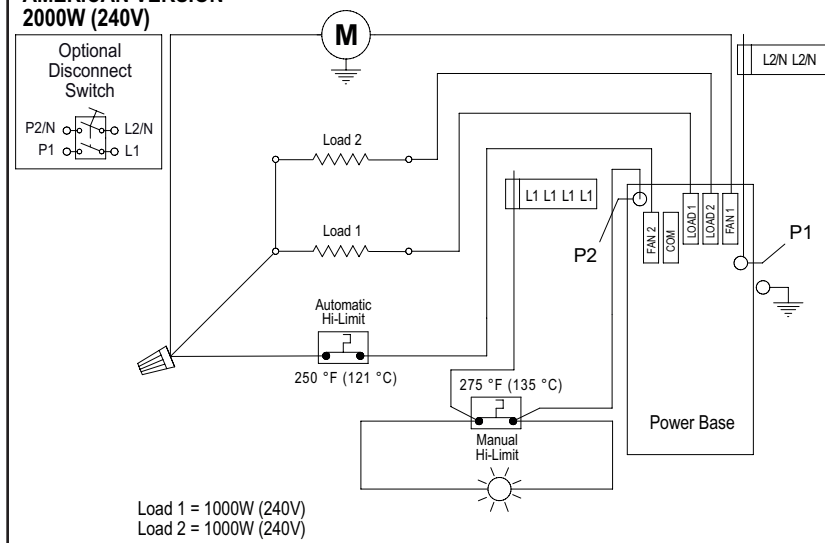

Fig. 5
- 10- Fix the plastic connector on the outlet located in the top of the front cover (**Fig. 5**).